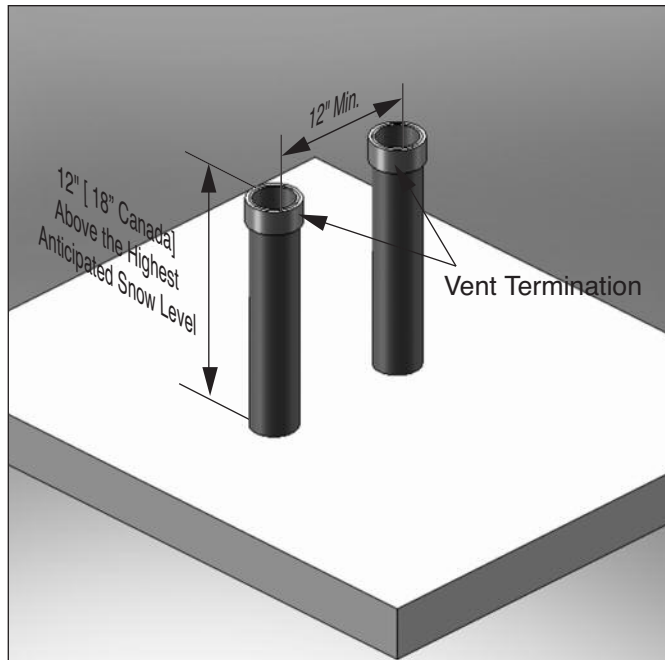

Fig. 25: Category IV- Vertical Termination of Multiple Boilers
2. Each vent termination must be a minimum 12" from the adjacent termination for installations in the U.S. as shown in Fig. 25. For installations in Canada, provide clearances as required by CSA B149.1 or 149.2.